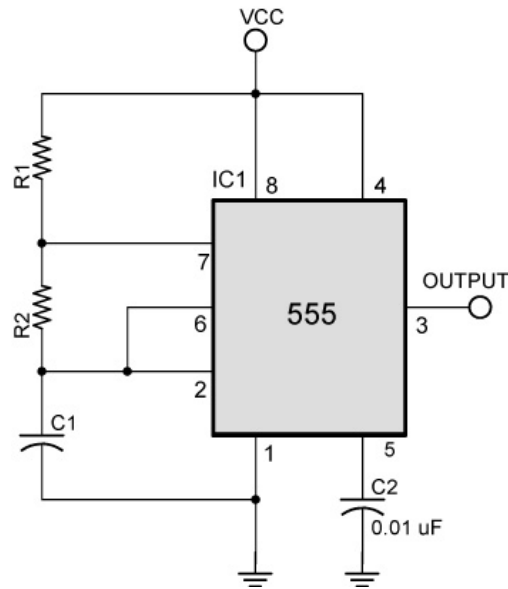

Figure 15: Astable Operation Circuit (Duty Cycle > 50%)
- Output Waveform from Astable 555 Timer Circuit in Figure 15:
- **Circuit Limitations:** The circuit in Figure 15 has one inherent problem; it will not generate a square waveform with a duty cycle below 0.5 or 50%. The duty cycle is ratio of the pulse width (t_1) to the period (T).